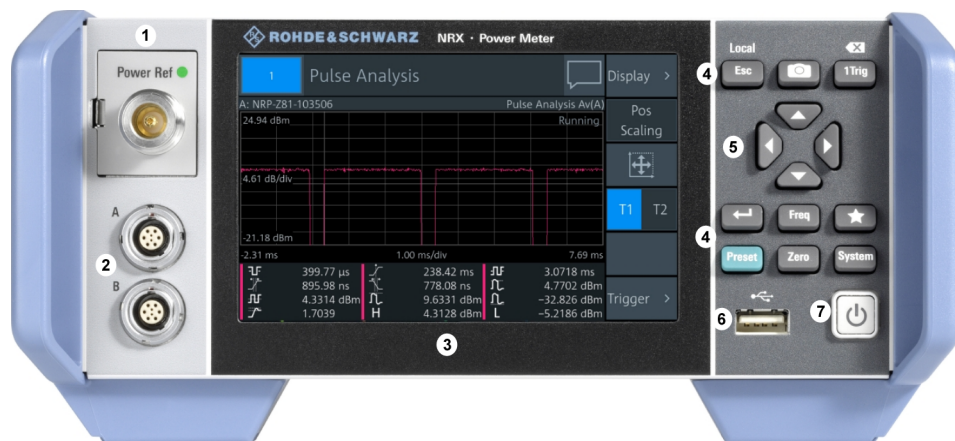

Figure 3-2: Front panel of the R&S NRX
See (2) in Figure 3-2.
See (1) in Figure 3-2.
See (3) in Figure 3-2.
See (4) in Figure 3-2.
See (5) in Figure 3-2.